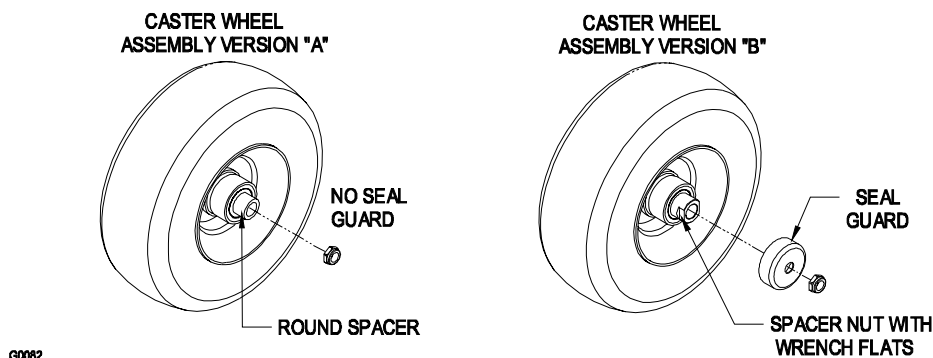

FIGURE 7
- c) Identify the caster assembly. Two different caster wheel assembly versions have been used on the unit. Reference Figure 7 to determine if caster wheel assembly "A" or "B" is installed on the unit.